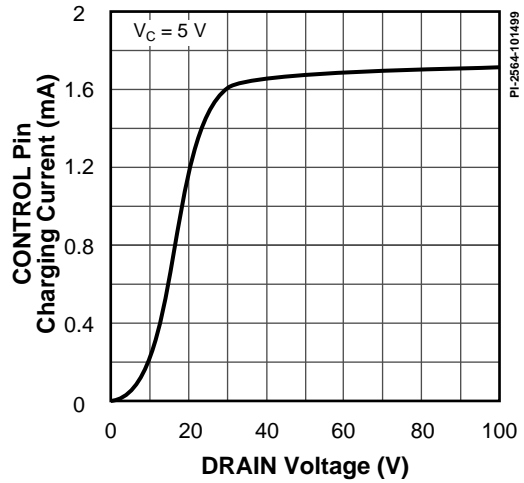

Figure 67.  $I_c$  vs. DRAIN Voltage.
- E. It is possible to start up and operate *TOPSwitch-GX* at DRAIN voltages well below 36 V. However, the CONTROL pin charging current is reduced, which affects start-up time, auto-restart frequency, and auto-restart duty cycle. Refer to Figure 67, the characteristic graph on CONTROL pin charge current ( $I_C$ ) vs. DRAIN voltage for low voltage operation characteristics.